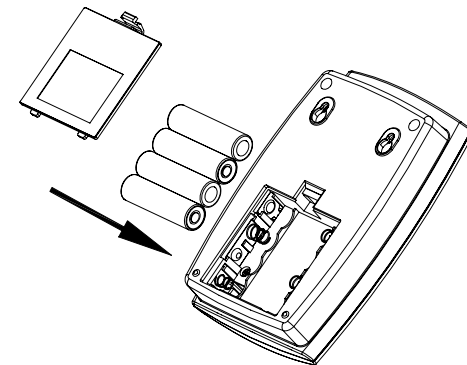

FIGURE 1
1. Open the battery cover. (FIGURE 1)
2. Insert 4 "AA" batteries ensuring correct polarity being put. (FIGURE 1)